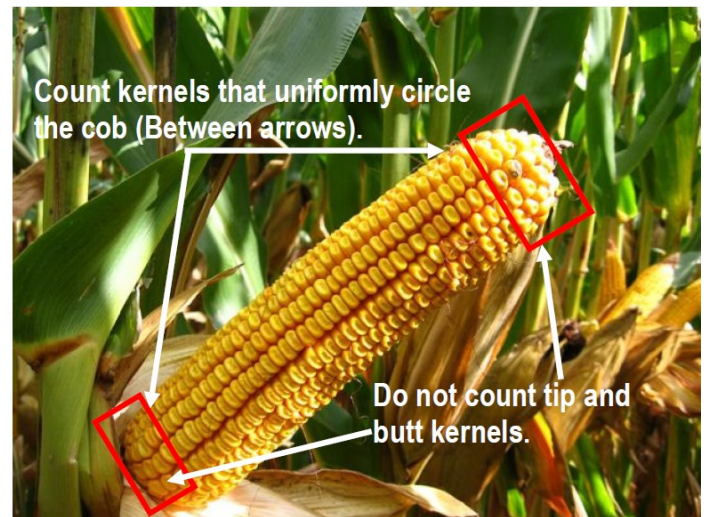

Figure 1. Example of normal ear and kernels to be counted.
Step 1. At each sample site, measure 1/1000th of an acre (Table 1). Don't sample nubbins, abnormal ears, aborted kernels or count dropped ears or ears on severely lodged plants. Count kernels where there are complete rings of kernels around the cob and avoid counting kernels on the extreme ends of the ear (Figure 1).¹